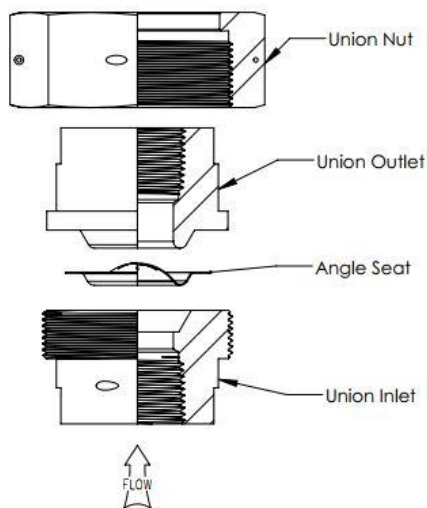

Figure 1 – Angle Seated Disk Union Type Holder
- f) Place the new unused rupture disk into the holder as per figure 1, 2, 3 or 4. with proper side of the disk facing the system pressure. DO NOT USE A GASKET.